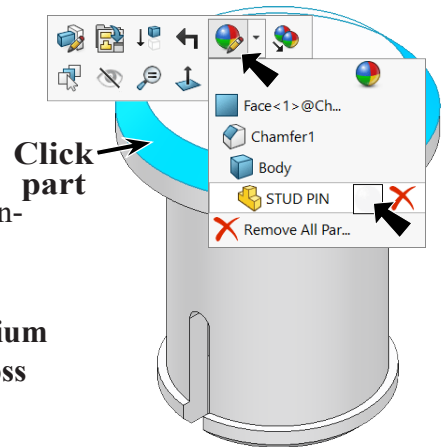

Fig. 24
Step 2. Click the part, click **Appearance Callout**  on the context toolbar and click **STUD PIN** , Fig. 24.